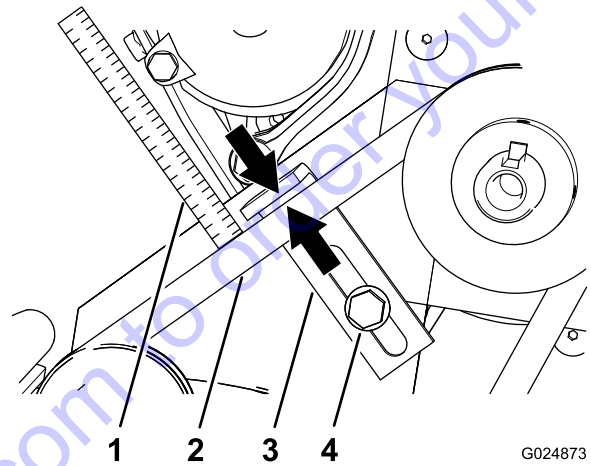

Figure 26
Note: If the air gap is larger or smaller than 6 mm (1/4 inch), adjust the belt guide (Figure 26); refer to Adjusting the Belt Guide (page 21).
- Measure the air gap between the belt and the belt guide (Figure 26).
- Loosen the hex-flange head bolt that secures the belt guide to the engine plate (Figure 26).
- While keeping the top of the belt guide parallel to the belt, move the belt guide toward or away from the belt until the air gap is correct (Figure 26).
- Tighten the hex-flange head bolt that secures the belt guide to the engine plate (Figure 26).